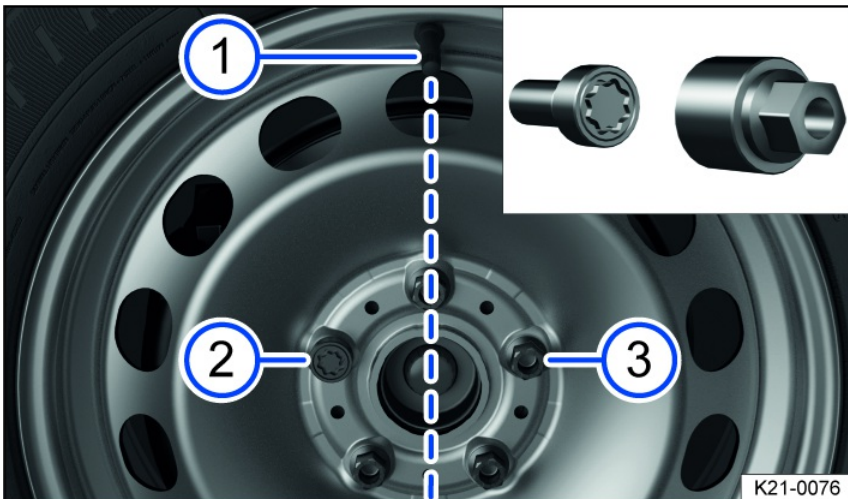

Fig. 175 Changing a tire: tire valve ① and locations of the anti-theft wheel bolt ② or ③.
On wheels with full wheel covers, the anti-theft wheel bolt must be fitted in position *fig. 175* ② or ③, based on the position of the tire valve ①. Otherwise, it will not be possible to install the full wheel cover.